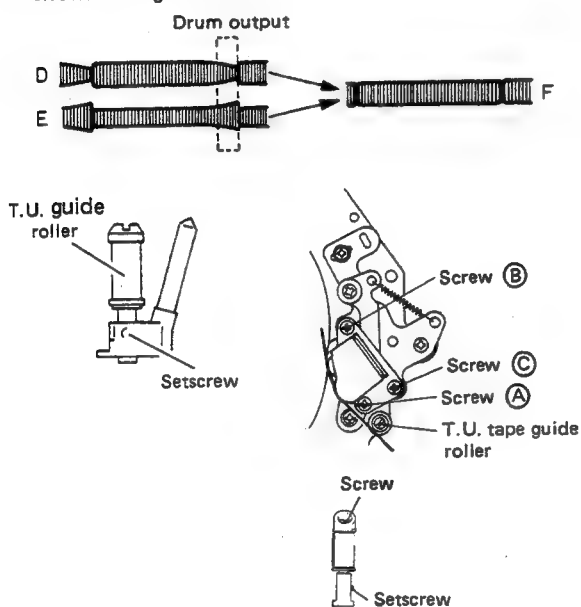

Fig. 2-48 Drum output adjustment
7. In the same manner as for the drum input, turn the take-up guide roller to adjust the decay portion (drum output portion) of the FM waveform. Incorrect examples are shown by D and E in Fig. 2-48, while F indicates the correct adjustment.